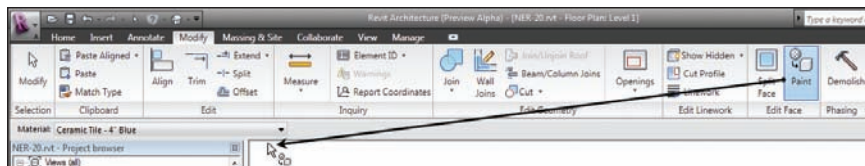

FIGURE 6.42 The Paint icon on the Geometry panel
1. On the Geometry panel of the Modify | Split Face tab, click the Paint icon, as shown in Figure 6.42.